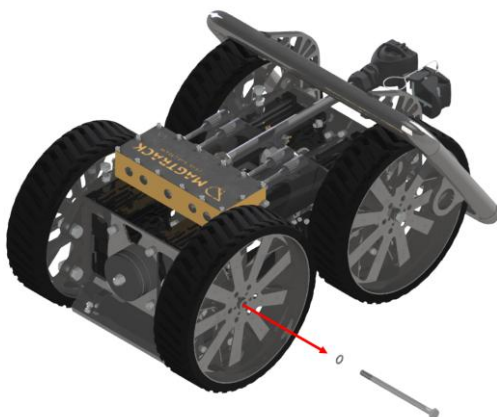

Figure 45 Wheel removal
3. Remove the bolt and take the wheel including axle out of the gear box. This can be seen in Figure 45.